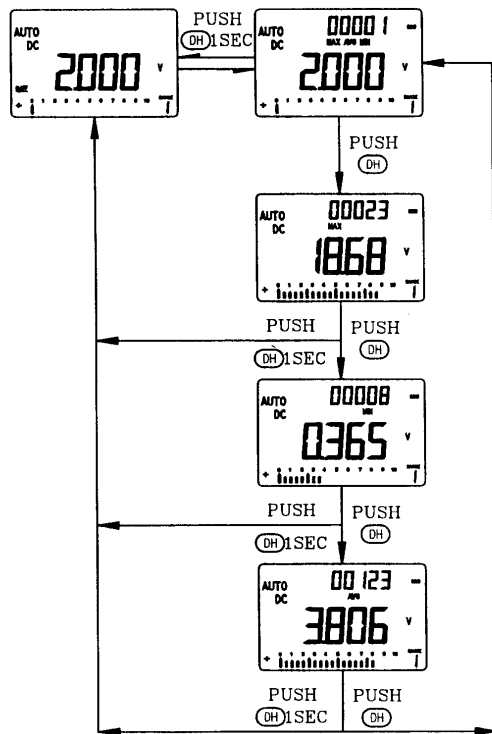

Figure 6. Display of Dynamic Recording
- 3) Press this button momentarily to cycle through maximum, minimum, average and present readings. The MAX, MIN, AVG or MAX AVG MIN annunciator turns on respectively to indicate which value is being displayed. See **Figure 6**.